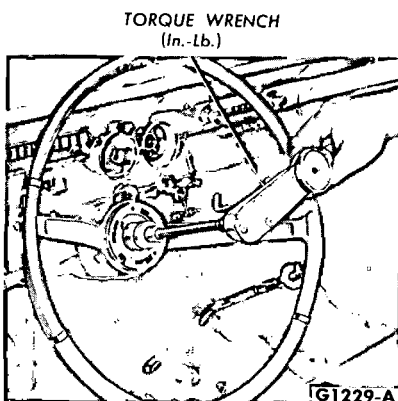

FIG. 4—Checking Preload
7. Measure the worm bearing preload by attaching an inch-pound torque wrench to the steering wheel nut (Fig. 4). With the steering wheel off center, read the pull required to rotate the input shaft approximately $1\frac{1}{2}$ turns either side of center. If the torque or preload is not within specification (Part 3-6), adjust as explained in the next step.
11. Turn the sector adjusting screw clockwise until the specified pull (Part 3-6) is necessary to rotate the worm past its center high spot (Fig. 4). No perceptible backlash is permissible at 30° on either side of center.